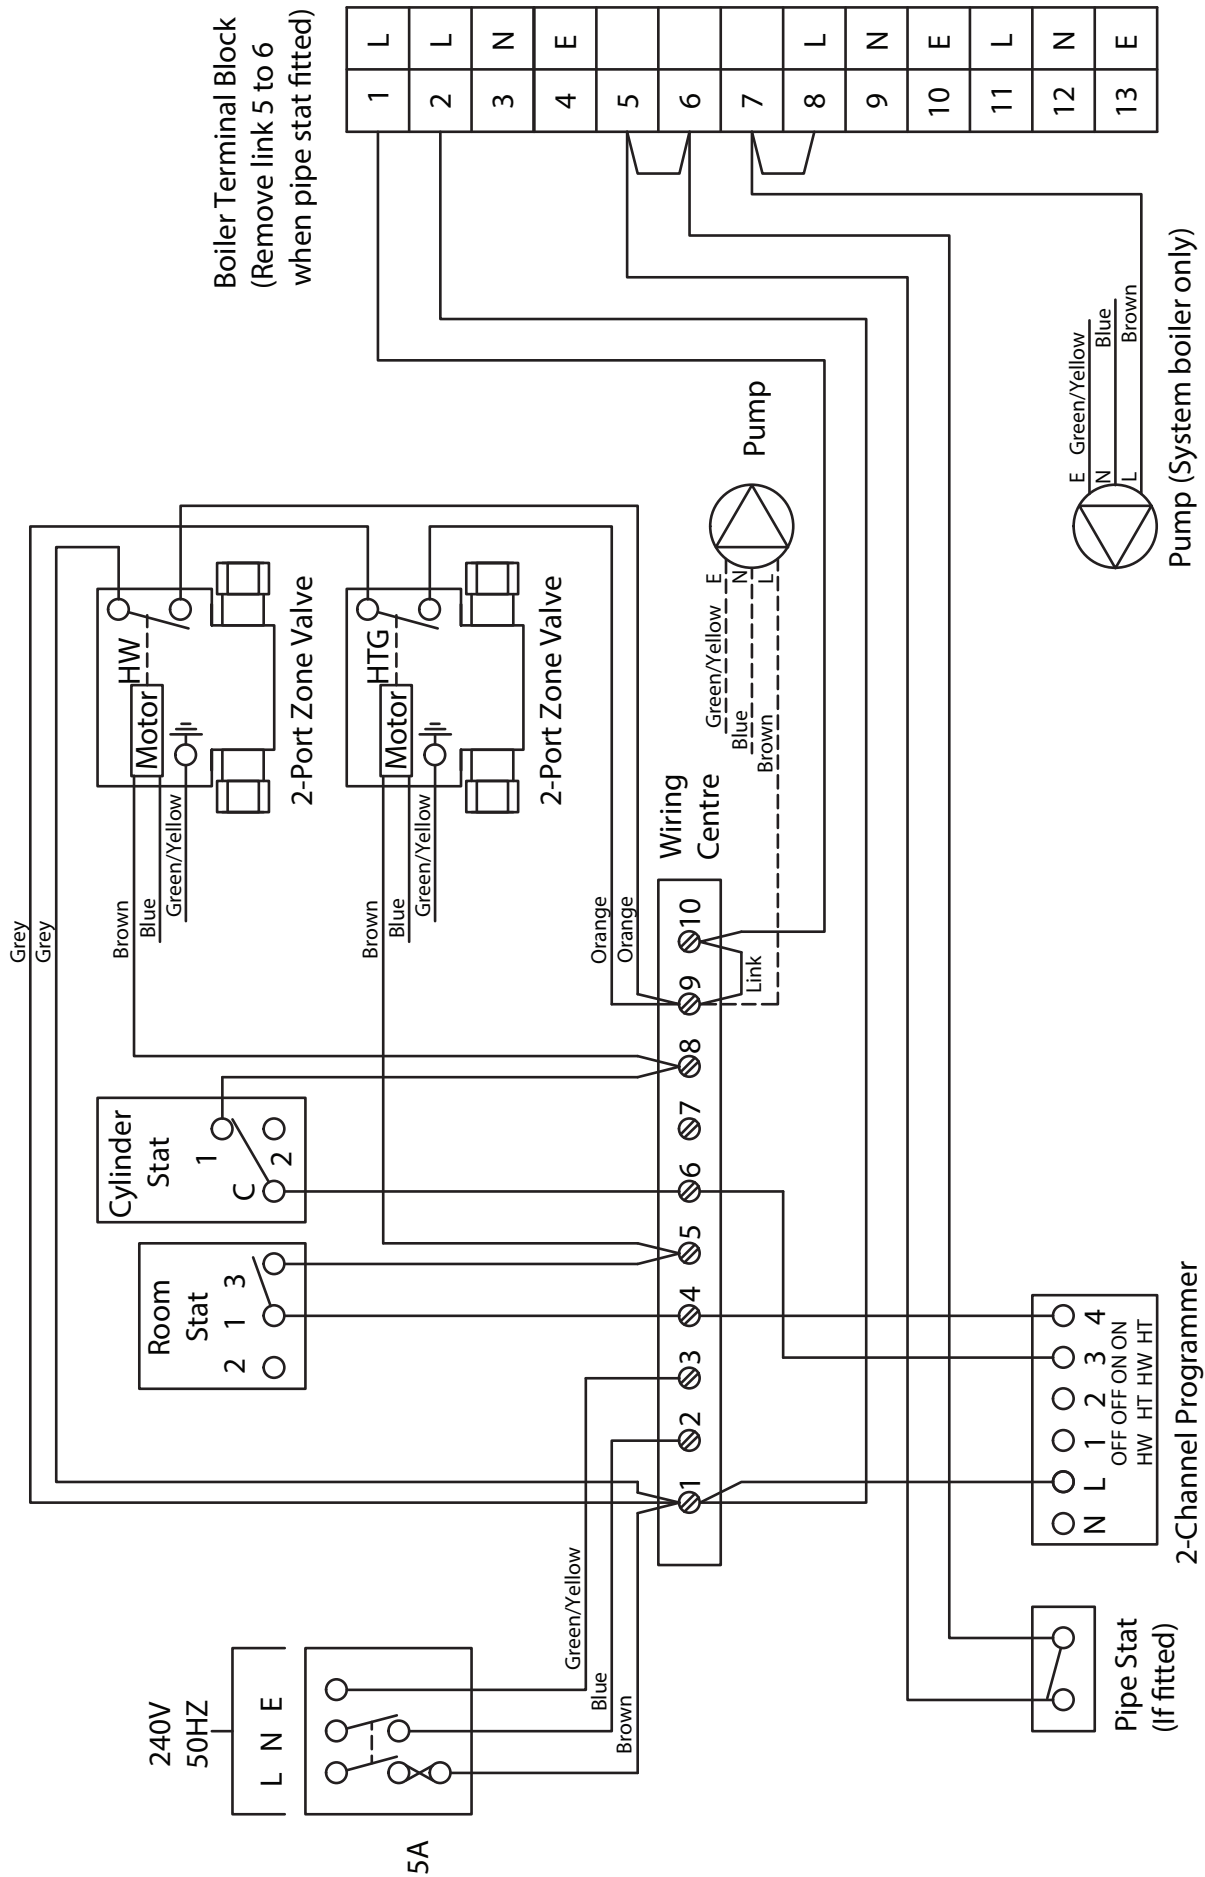

Figure 8-1: Vortex Eco External Module with S-plan type control system wiring diagram
Refer to Figures 8-1 and 8-2 for typical control system wiring diagrams for all models.
Refer to Figures 8-1 and 8-2 for typical control system wiring diagrams.
7. Make the remaining required connections to the control panel, as detailed in Figures 8-1 and 8-2.
For connection details please refer to Figures 8-1 and 8-2.